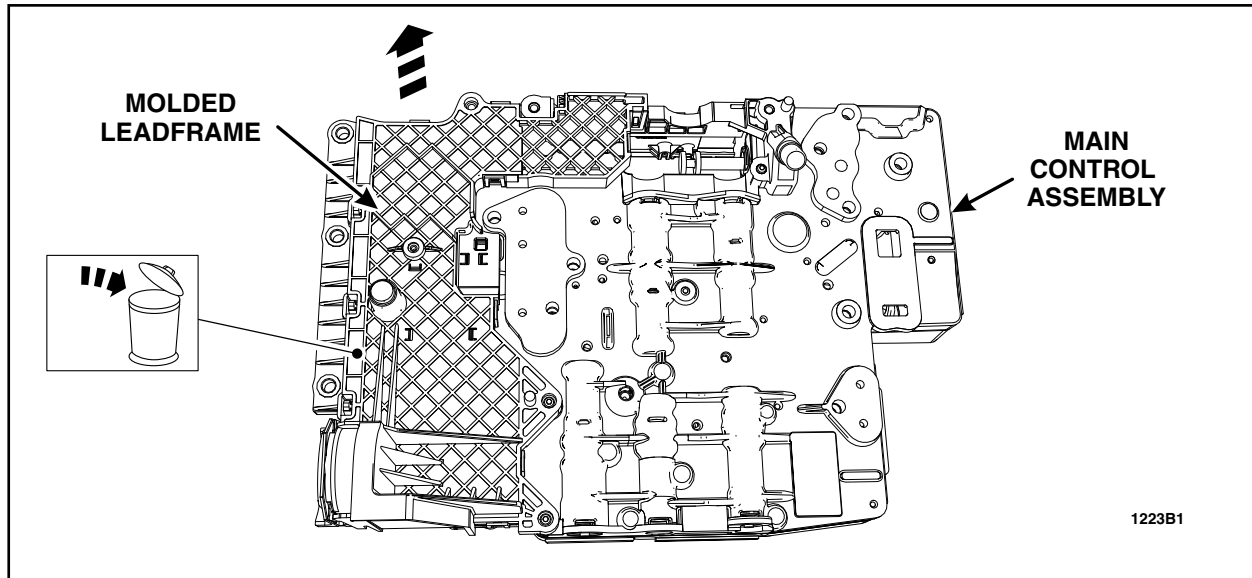

**FIGURE 1**
4. Remove the six long bolts from the molded leadframe. See Figure 1.